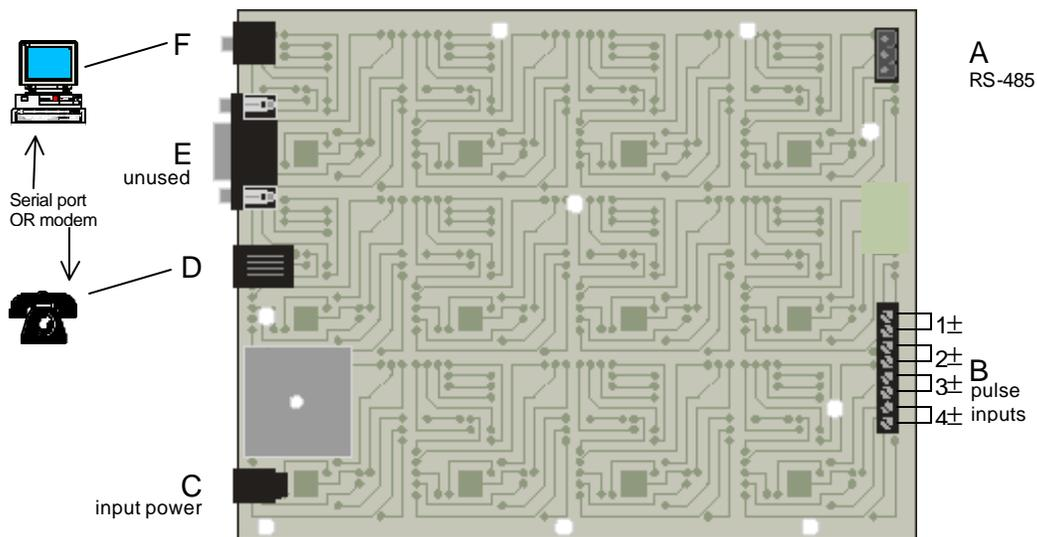

Figure 1: System Board Connector and Component Locations
- Connect up to four pulse inputs to the terminals at J17 on the E/Server system board. These terminals are marked B in Figure 1. The terminal closest to the RS-485 connector (A in Figure 1) is input number 1, and all minus (-) terminals are connected to the circuit board ground and the chassis.
- Connect the RS-485 devices to the connector at J11 (A in Figure 1).
9. For modem connections, connect the telephone line to the E/Server (connector marked D in Figure 1). For direct connections, connect the supplied serial port cable between your PC's serial port to the E/Server's local "laptop" connector (F in Figure 1).
10. Connect the power cord to the E/Server (power input jack connector marked C in Figure 1), and then plug the cord into a wall outlet.
NOTE: The connector marked E in Figure 1 is not used at this time and should not be connected to external devices.